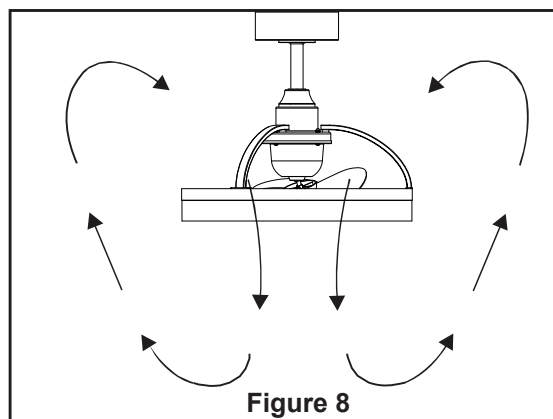

Figure 8
- ☐ Warm weather - (Forward) A downward air flow creates a cooling effect as shown in . (Figure 8) This allows you to set your air conditioner on a higher setting without affecting your comfort.